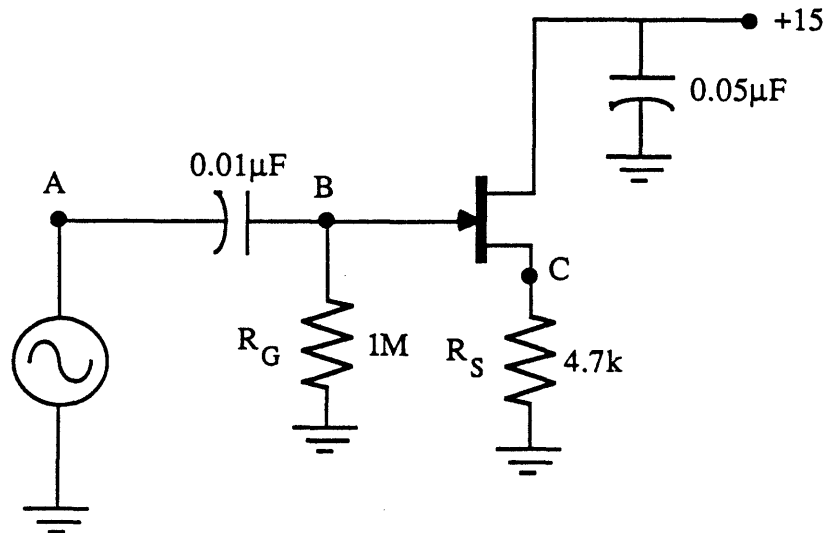

Figure 3 - Source follower
- (1) Build the circuit shown in Fig.3. Connect the scope CH1 input to point A and CH2 input to point C. Use your DMM to measure the DC potentials at points A and C. Record these values in Table 11.6.
- (2) Adjust the generator to produce a 100 mV_{p-p} 1 kHz triangle wave at point A.
- (3) Use the scope to measure the AC_{p-p} voltage at point C. Record your data in Table 11.6.
- (4) Repeat steps 2 and 3 using 200mV, 400 mV, etc. in step 2 until your signal begins to distort.
- (5) Connect a 1000 ohm resistor between point C and ground. Repeat steps (2) and (3).